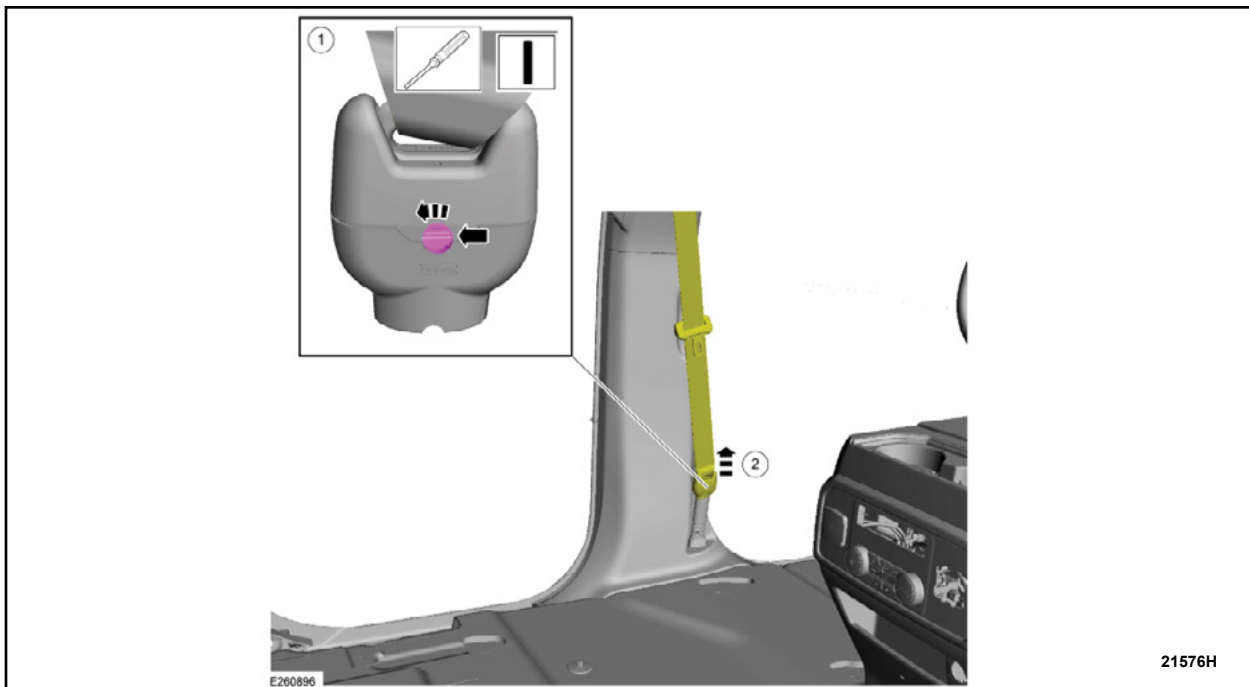

FIGURE 16
8. Press in on the release button and disconnect the front seatbelt retractor from the front seatbelt anchor pretensioner. See Figure 16.